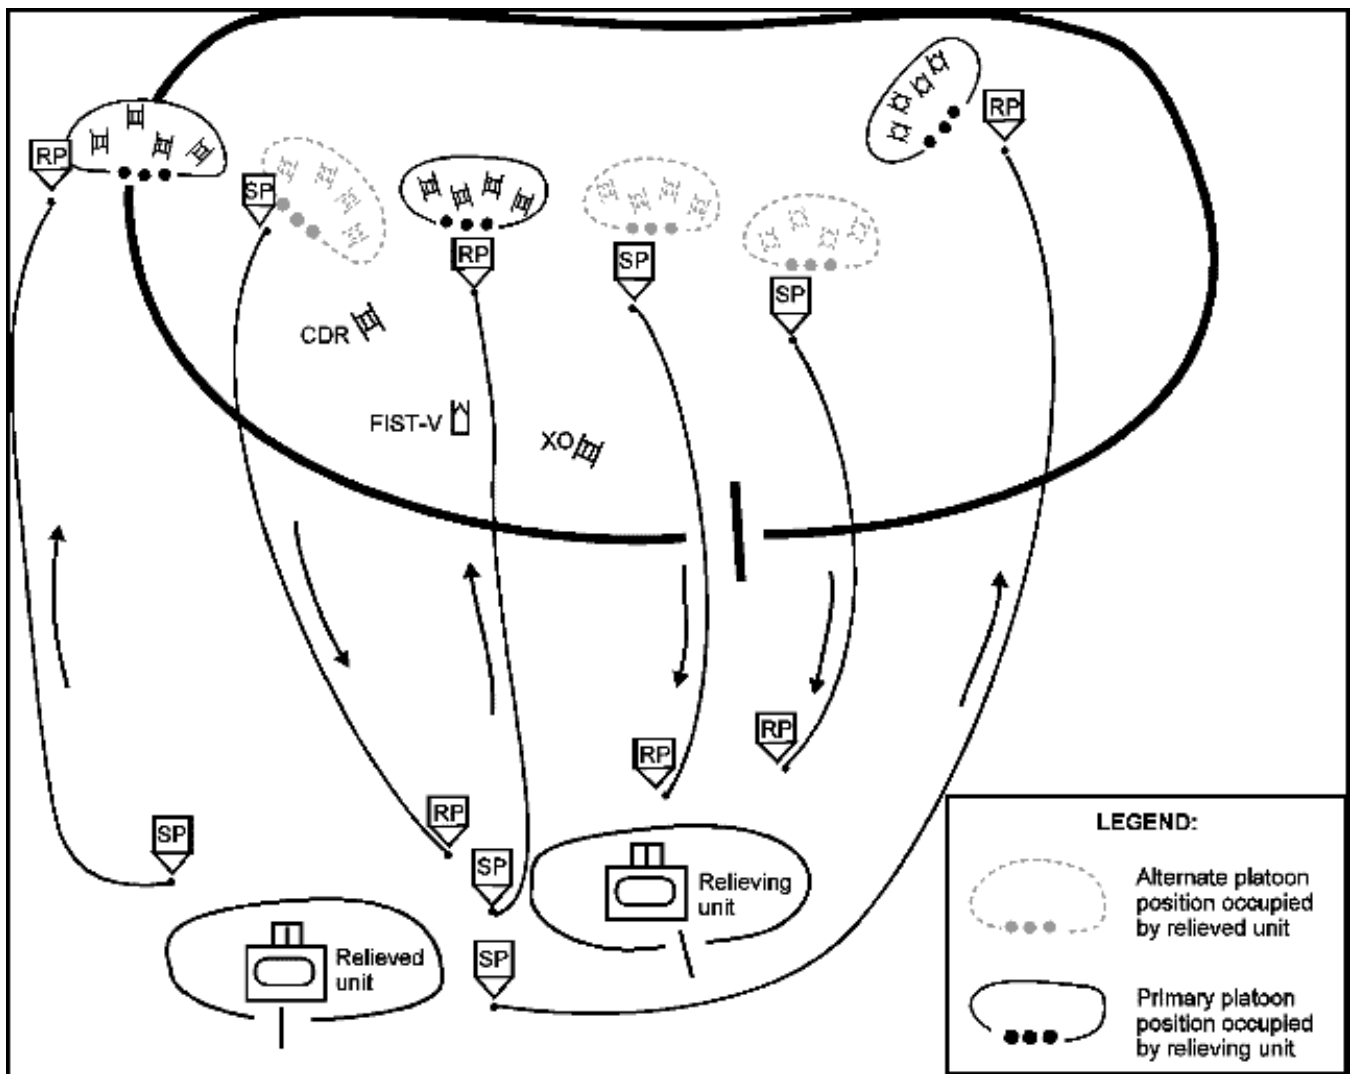

Figure 5-6. Example relief in place by alternate platoon positions.
- By alternate element position. The relieving element occupies a position separate from that of the relieved element. See Figure 5-6 for an illustration of this relief method.